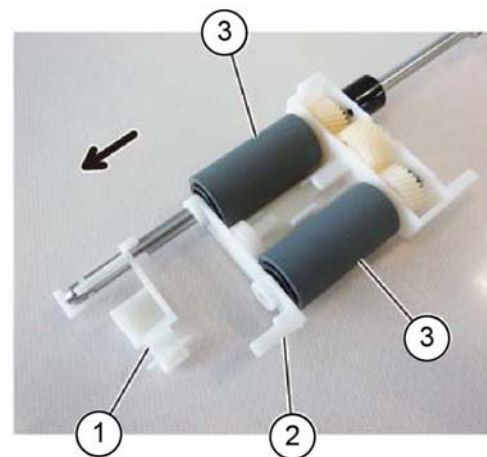

Figure 3 Roll assembly removal
3. Remove the roll assemblies, Figure 3:
- a. Release the hook to remove the feed front handle (1).
- b. Release the hook to remove the nudger CRU housing (2).
- c. Remove the roll assemblies (3).